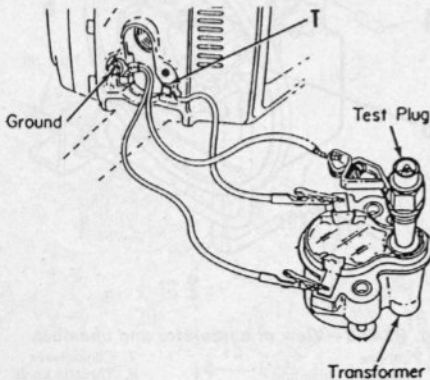

Fig. HL42-5—A test plug may be used to determine if ignition system is operating correctly. See text.
The ignition system is serviced by replacing the spark plug, ignition module, high tension coil or wires with new components. The ignition system can be checked using a test plug or spark plug with the side electrode removed as follows: Remove the high tension transformer and install the test plug and connect test wires as shown in Fig. HL42-5. Test wire should be inserted behind receptacle tab (T). Push ignition switch to run position and briskly operate starter. If test plug sparks then ignition system is operating satisfactorily and the spark plug should be checked. If no